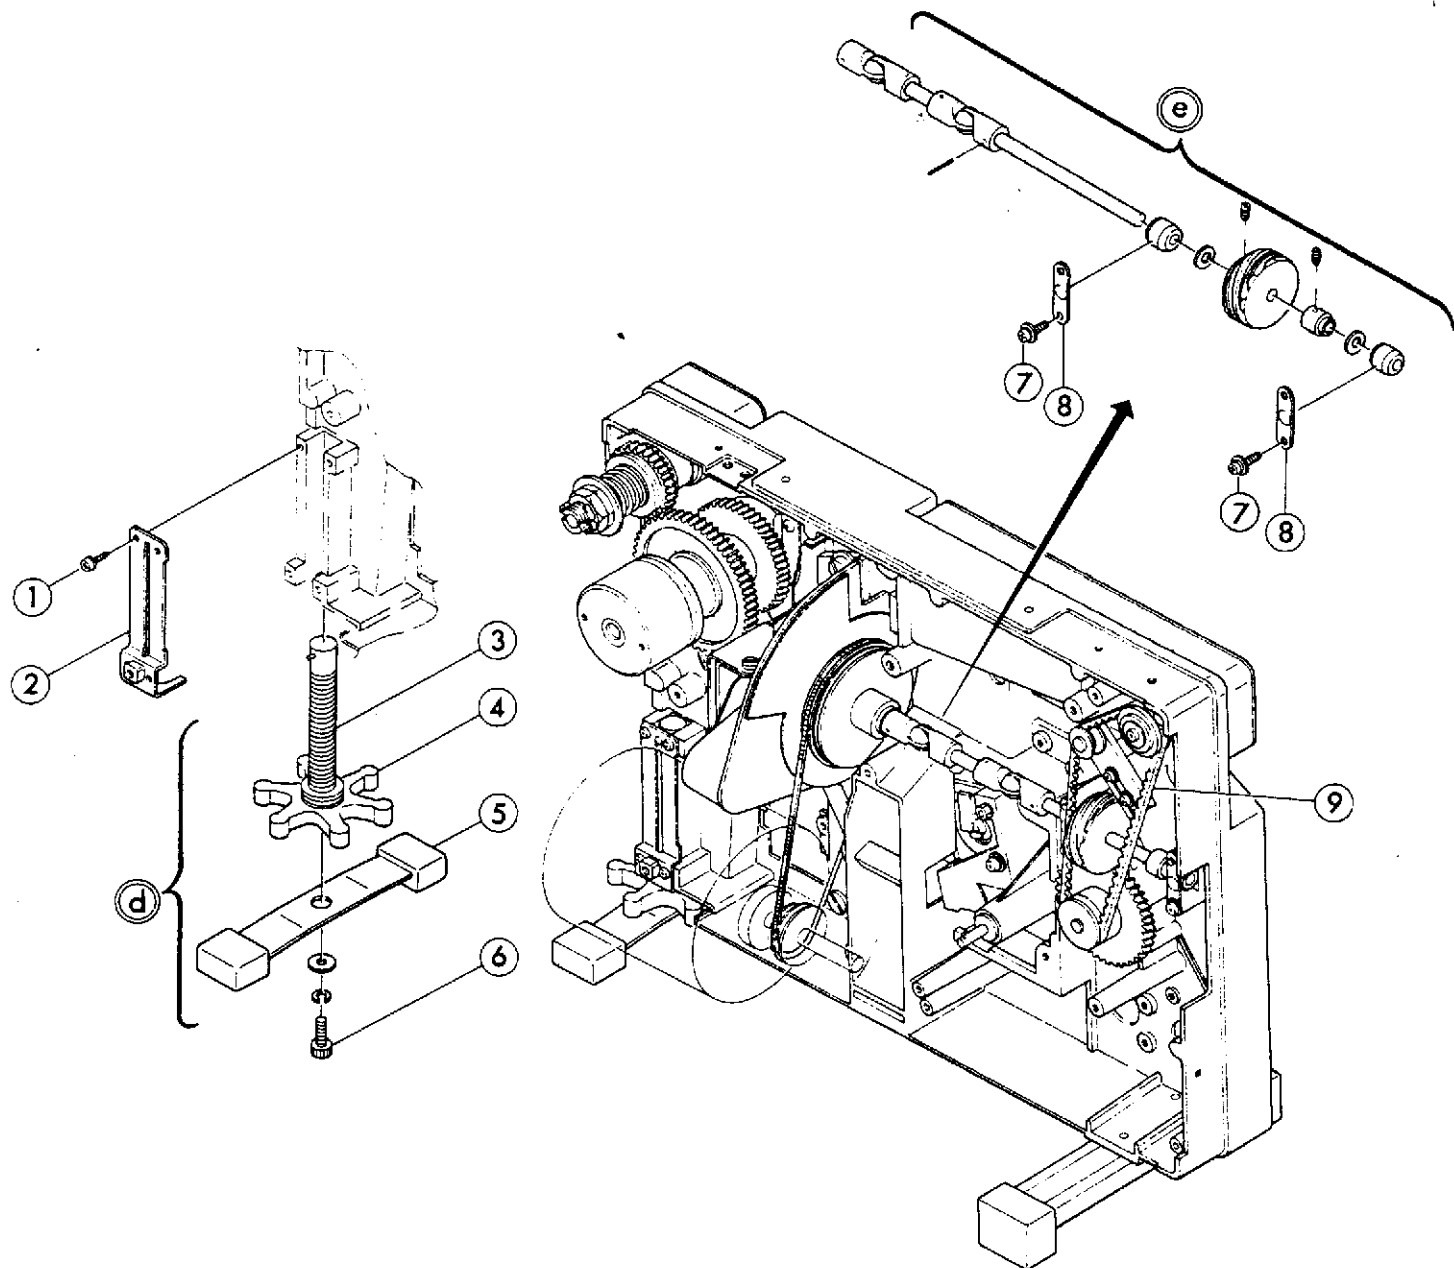

Fig. 9
- (2) Remove (d) in Fig. 9 by detaching Fig. 9-1x4,2.
- (4) Pull out (e) in Fig. 9 as a unit toward the rear side of projector.